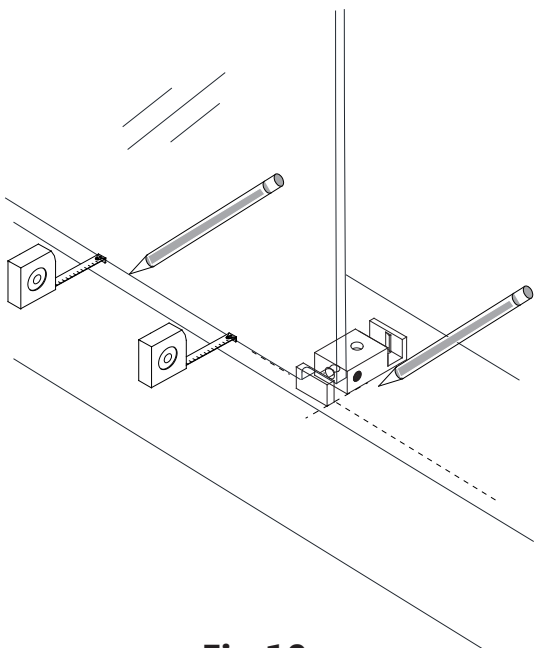

Fig 10a
9. Make sure that the **Stationary Glass (#02)** is parallel to the front edge of the threshold and mark it. Slide the **Guide Block (#12)** into the notch of the **Stationary Glass (#02)**, and align flush with the edge (Fig 10a). Mark its position and also mark the hole for drilling using a pencil (or center punch.)
Note: If installing the **72" model**, also position the **Small Stationary Glass Bottom Bracket (#22)** with the edge of the **Small Stationary Glass (#23)** (Fig 10b) and mark its position and the hole for drilling. (**Fig 10a and 10b**)